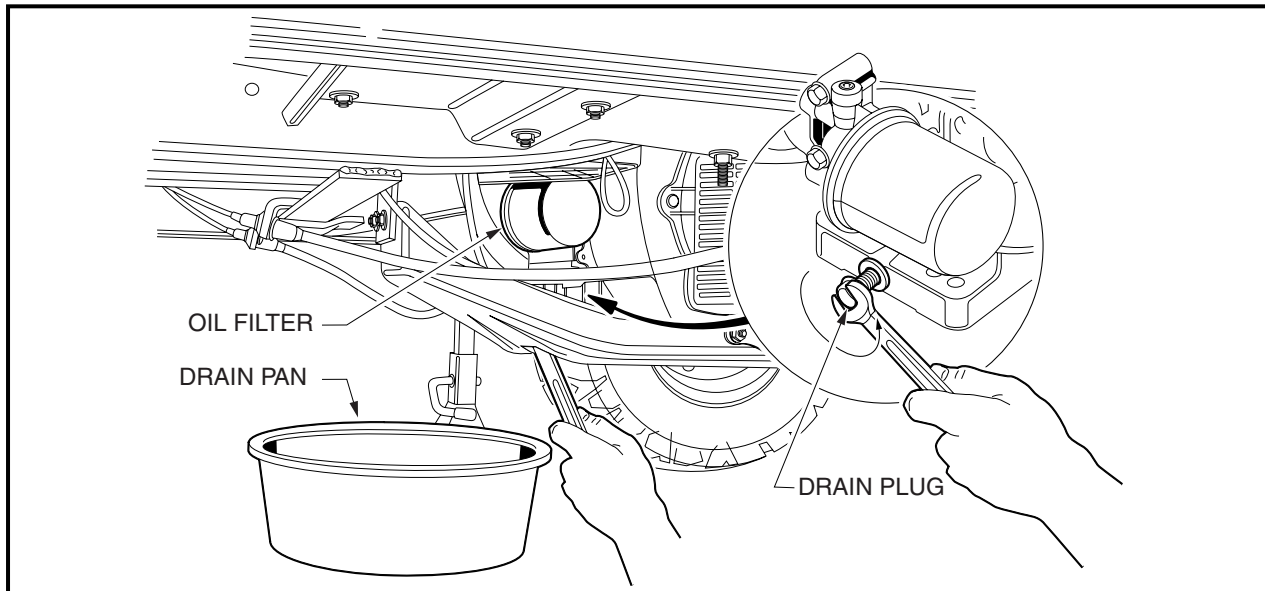

Figure 21 Engine Oil Drain Plug and Pan
4. Position a pan designed for oil changes under the front drain plug (**Figure 21**).